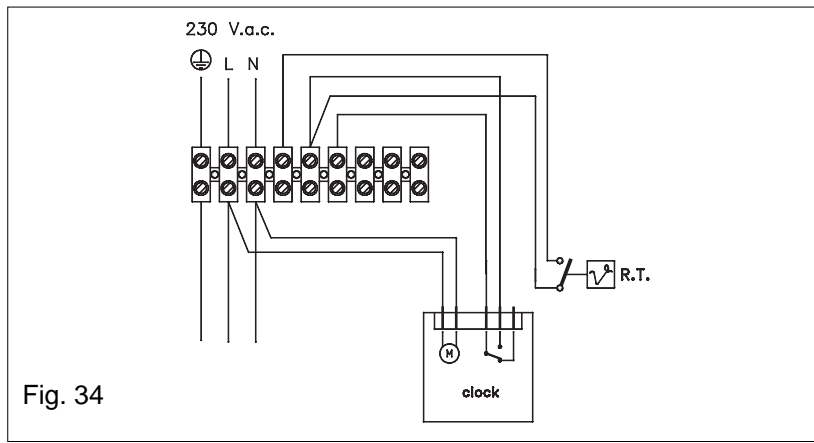

Fig. 34
- Connect the wires to the clock as shown in fig. 34.
- Connect the clock wires to the appliance terminal strip as shown in fig. 34.